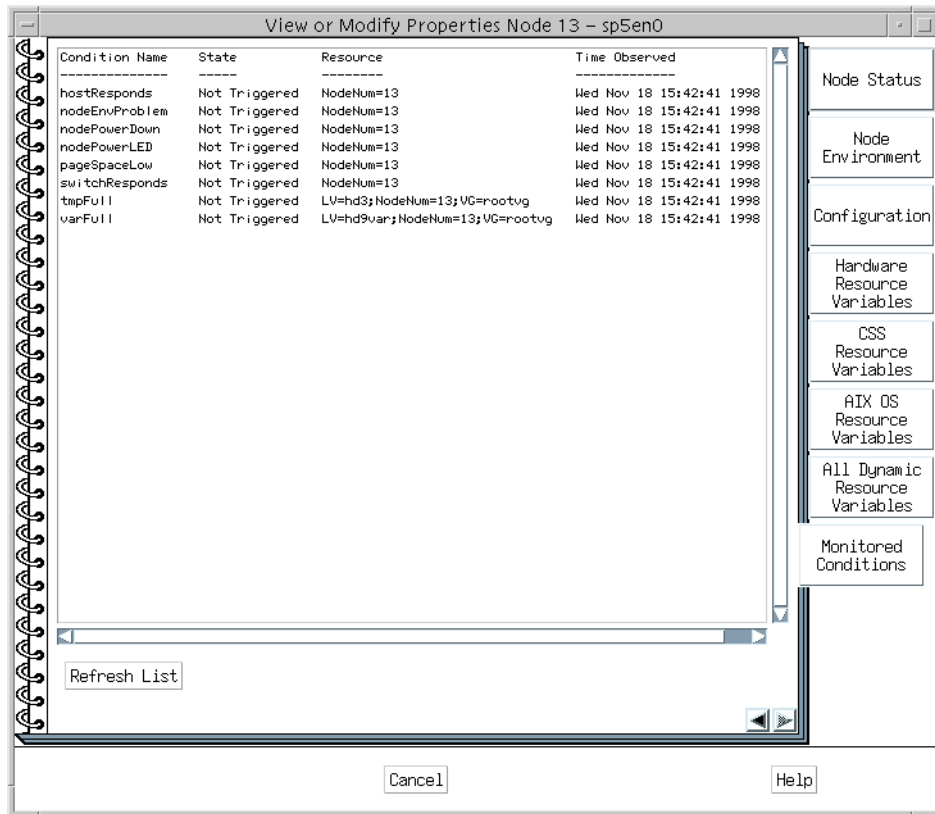

Figure 60. Monitored conditions page of node notebook
1. Double click the **node** icon on which you want to check the monitored conditions. You will see the View or Modify Properties Node notebook as shown in Figure 60 on page 257.